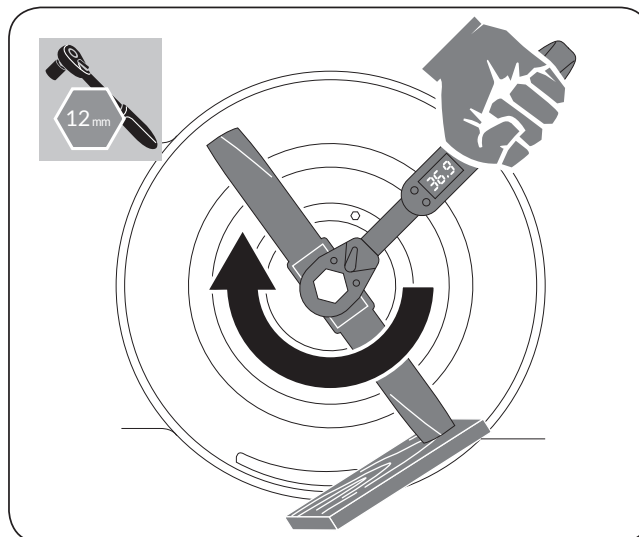

Figure 29
5. Install the new blade. Use a block of wood between the blade and lawn mower housing and tighten the blade bolt, turning clockwise. The recommended tightening torque is 33.3-36.9 ft.-lb. (45-50 Nm). (See **Figure 29**)